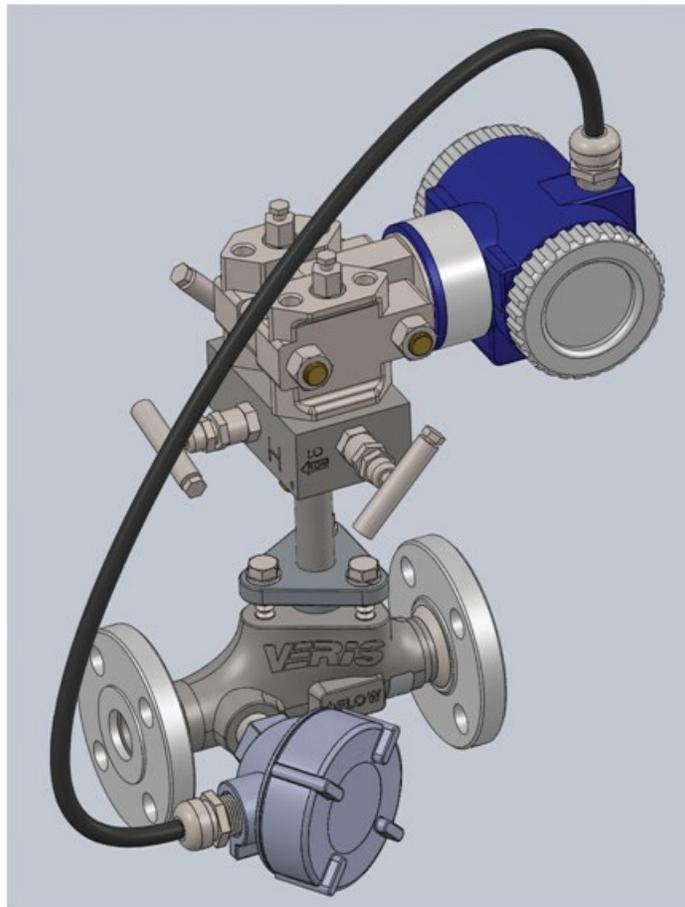

Figure 11. RTD Junction Box, RTD Cable, and Transmitter Orientation (as applicable)
- Push the RTD wires into the junction box and thread the box onto the thermowell in the orientation shown (See Figure 11).